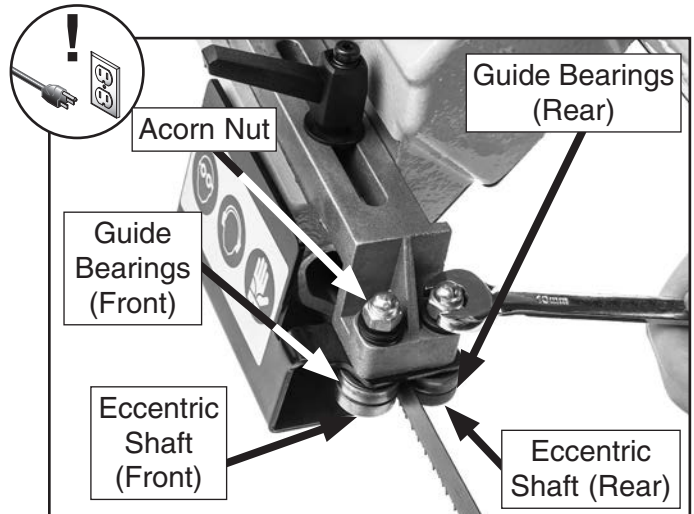

Figure 32. Location of guide bearings.
4. On left guide bearing assembly, loosen acorn nut on front eccentric shaft (see **Figure 32**).
5. Turn eccentric shaft and adjust roller bearing (see **Figure 32**) so it lightly contacts blade or has maximum clearance of 0.002".